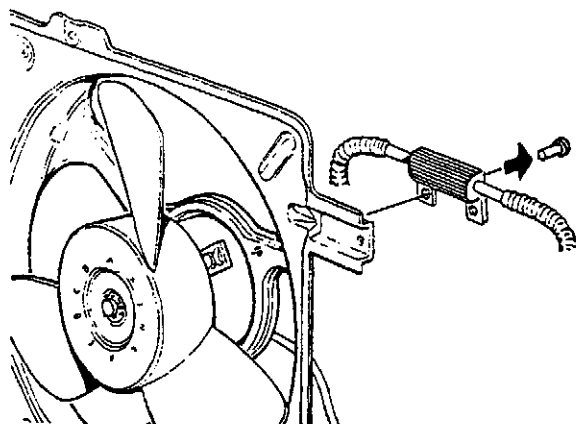

Figure 6. Drilling out pop rivets
1. Using a strip of sheet metal to protect the fan blades and radiator, drill out the pop rivets securing the resistor. See Figure 6.